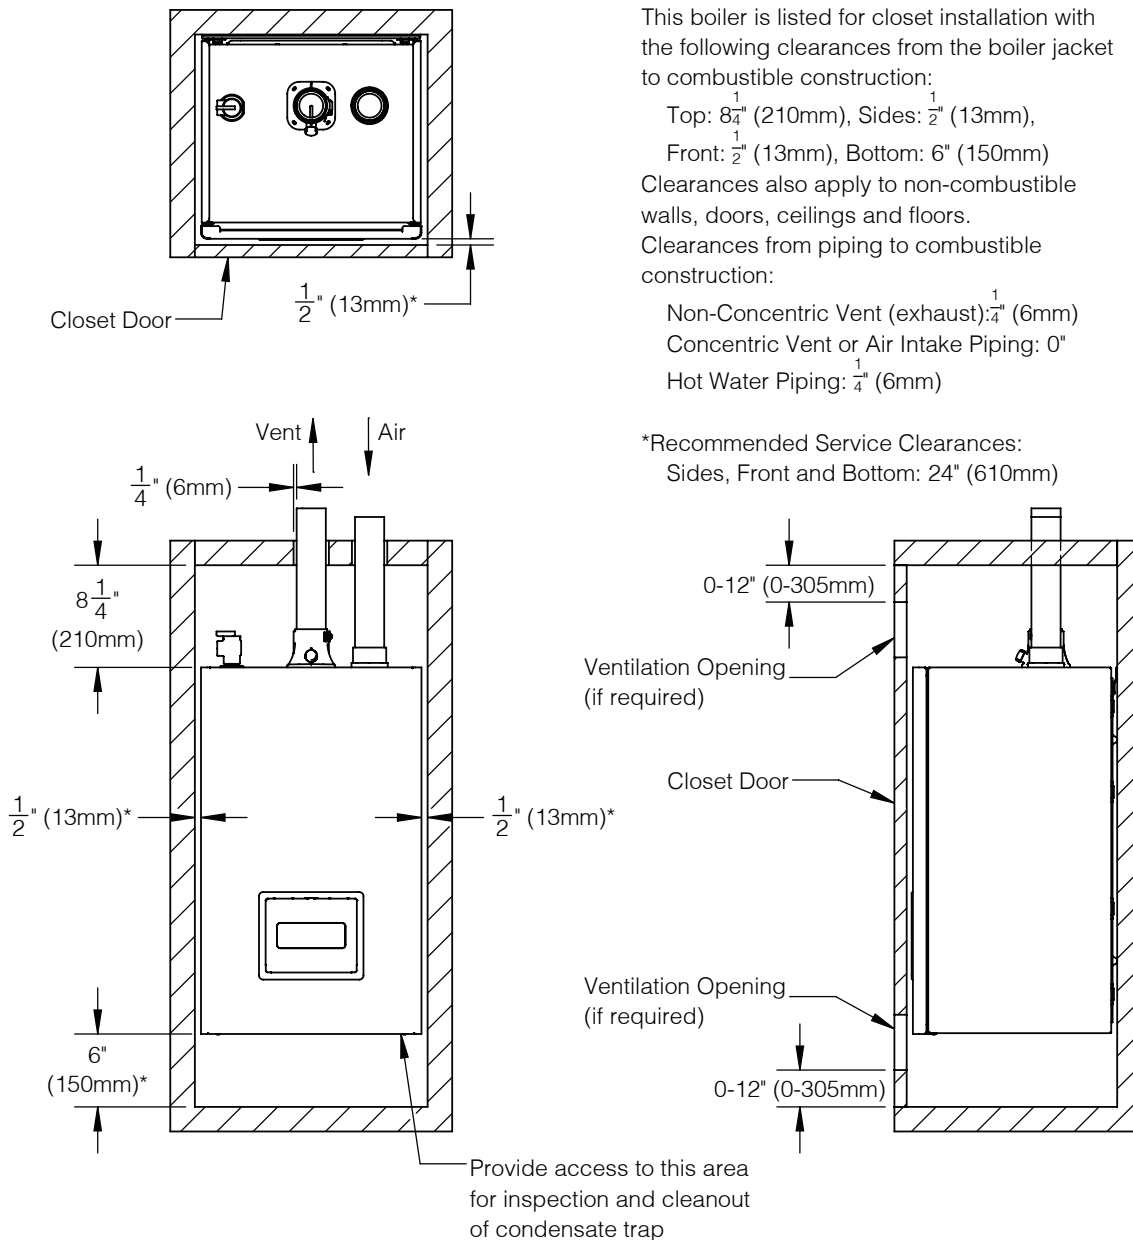

Figure 5-1 : Minimum Clearances to Combustible Construction
1. Provide clearances between boiler jacket and combustible material in accordance with authority having jurisdiction. Minimum clearances to combustible material shown in Figure 5-1.
2. If recommended service clearances shown in Figure 5-1 are maintained (with all doors to room closed), no ventilation openings are required.